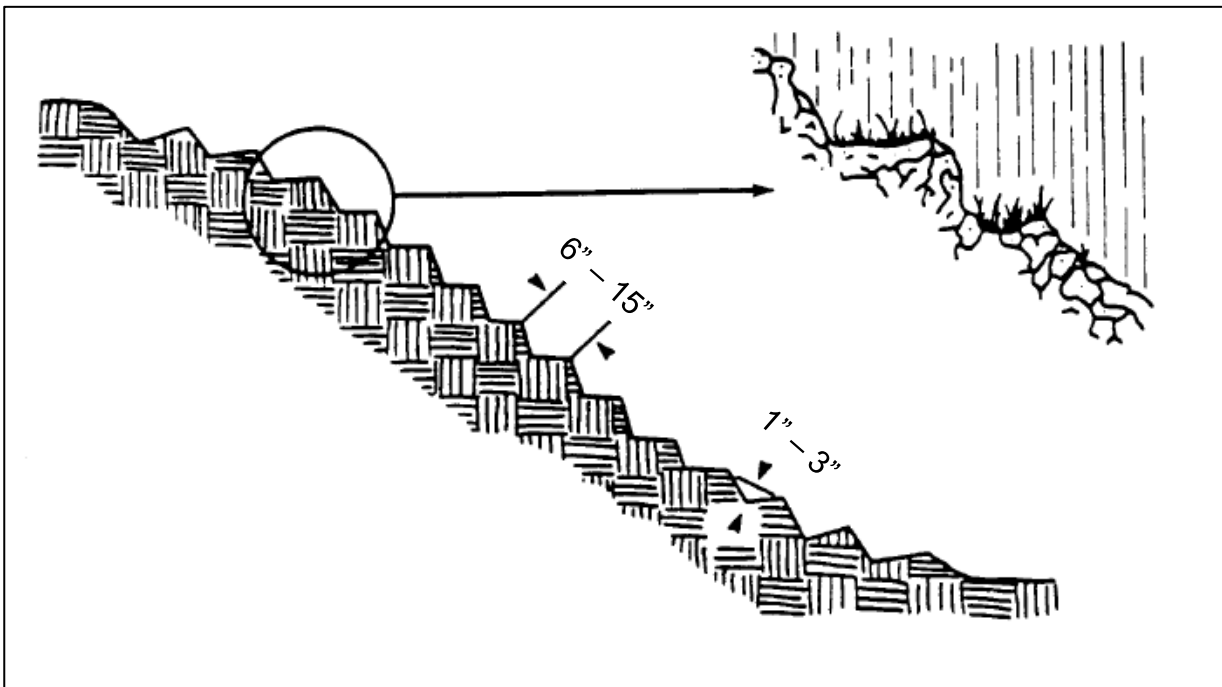
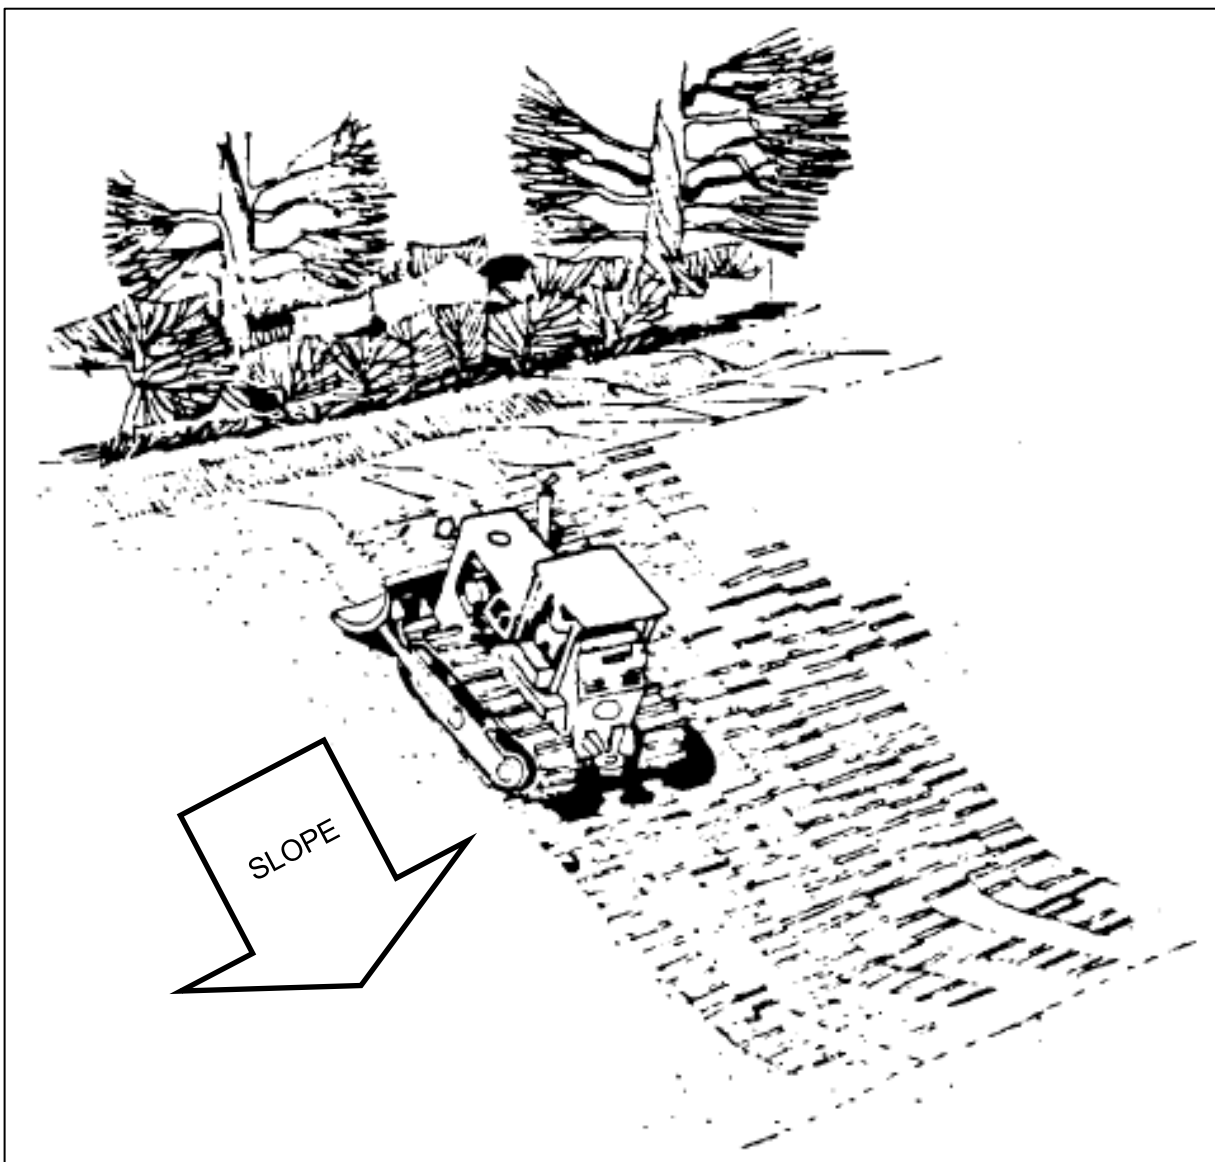

Figure 1. Side View of a Grooved Slope, Shown Catching Rainwater, Seed, and Nutrients
Figure 2. Bulldozer Tracking Soil Perpendicular to Ground Slope
- a. Surface Roughening/Scarification: Use this method in any areas which can safely accommodate disks, tillers, spring harrows, or the teeth of a front-end loader bucket. In areas which will not be mowed, use equipment to create grooves perpendicular to the slope. Grooves should not be less than 3 inches deep, nor more than 15 inches apart. In cuts, fills, and areas that will be mowed, grooves should be less than 10 inches apart and not less than 1 inch deep. Irregularities in the soil surface catch rainwater, and retain seed and nutrients when applied. Refer to Figure 1 for an example of ground that has been grooved. Another method is to run tracked machinery (such as a bulldozer) up and down slopes to leave depressions in the soil perpendicular to the direction of flow. To avoid undue soil compaction, use this method only on sandy soils. Do not back-blade during final grading. Refer to Figure 2 for an example of a bulldozer tracking a slope;
- b. Stair-Step Grading: Use this method on slopes steeper than 3H:1V which have material soft enough to be bulldozed and which will not be mowed in the future. Make the vertical cut less than the horizontal distance, and do not exceed two (2) feet in soft material and three (3) feet in rocky material. Grade the stair steps so that the 'treads' (i.e., the parts of stairs typically horizontal) are actually tiled back slightly, so any runoff on the 'tread' actually flows into the 'riser' (i.e., the part of stairs typically vertical).